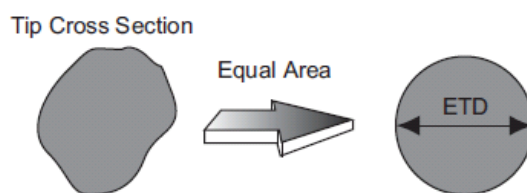

Figure 5.13i: ETD Depiction
Tip Estimation then provides, at each cross section, two numerical measures of tip size and shape: effective tip diameter (ETD) and aspect ratio (AR). The effective tip diameter is defined as the diameter of a circle having the same area as the measured tip cross-section (see Figure 5.13i). The ETD is shown below as a circle to the right.